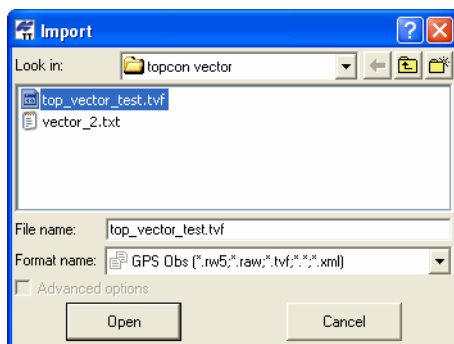

Figure 3-18. Import GPS Obs File
- Click **Open** to import the file (Figure 3-18).